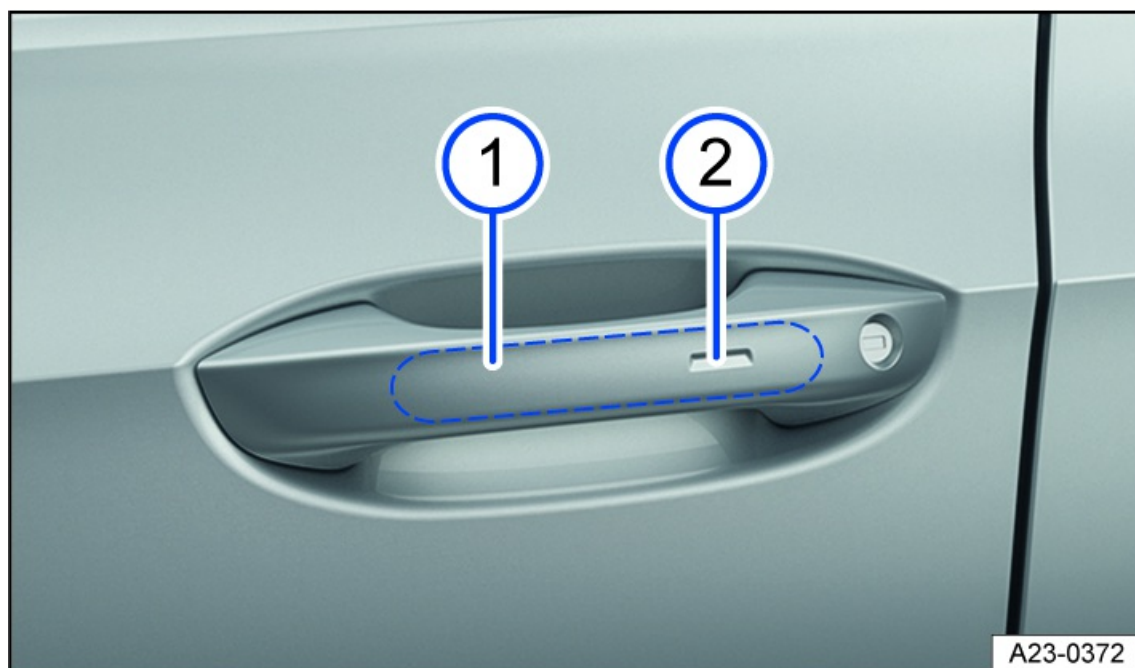

Fig. 42 In door handle: sensors.
1. Touch the sensor on the inside of the door handle *fig. 42*.
2. Touch the sensor on the outside of the door handle *fig. 42*.
2. Then, within 5 seconds, touch the sensor on the outside of the door handle once fig. 42. Do not grasp the door handle during this process.
1. Press and hold the sensor on the driver or passenger door handle for a few seconds fig. 42.